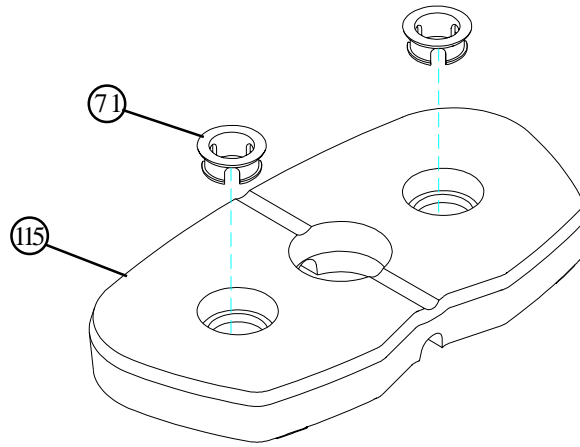

FIGURE 7
- Insert two WEIGHT PLATE BUSHINGS (71) into each of the fifteen WEIGHT PLATES (115) as shown in FIGURE 7.